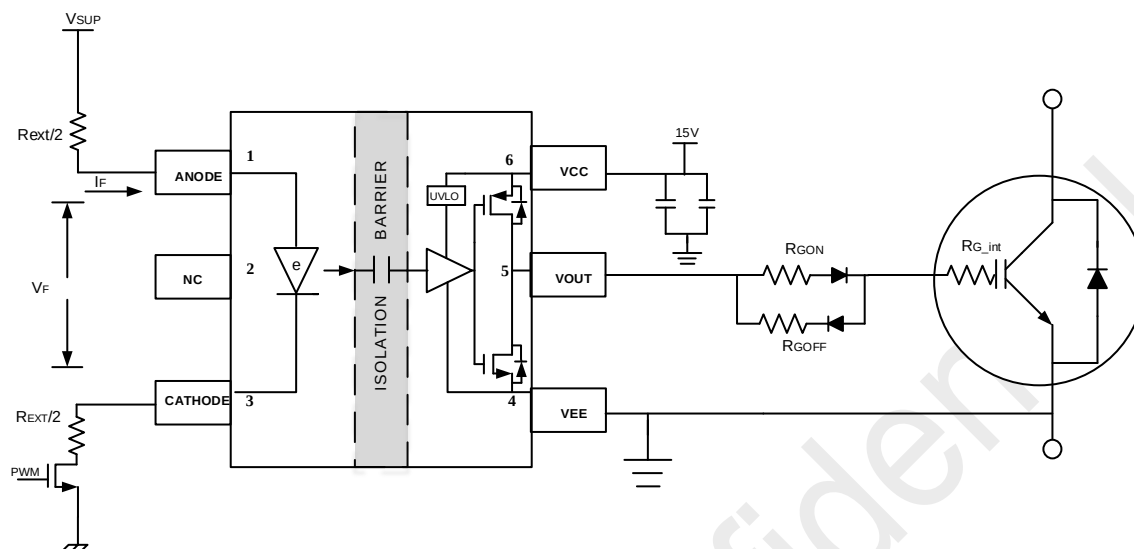
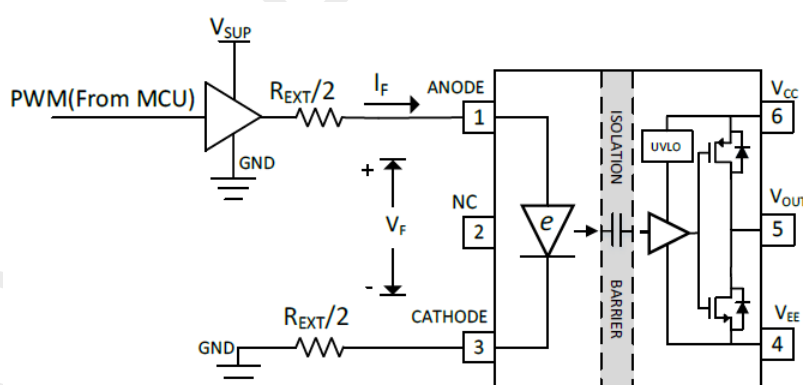
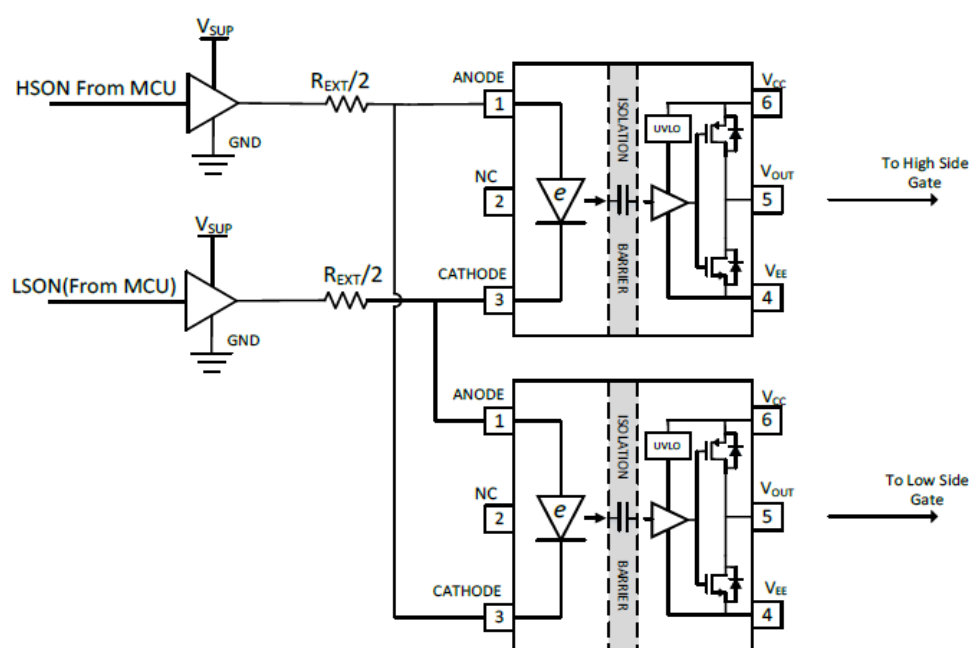

Figure 3-1. Typical Application Circuit with NMOS Driving Input Stage
Figure 3-2. Typical Application Circuit with One Buffer Driving Input Stage
Figure 3-3. Interlock Protection using CMT8603X
CMT8603X requires 7mA to 16mA bias current that flows into the e-diode for normal operation. The PWM from MCU is not suitable to provide such current directly and external circuit is needed. In Figure 3-1, one NMOS is used with split input resistors. Another input drive method is using one buffer, as shown in Figure 3-2.
For applications to drive power transistors in half bridge configuration, two CMT8603X can be used. Interlock protection is possible as shown in Figure 3-3. If the controller has some mistake, leading to negative dead time, the output PWM of CMT8603X is adjusted to avoid power transistor shoot through. The input side reverse breakdown voltage of CMT8603X is greater than 6.5V, which supports interlock protection of 3.3V or 5V PWM signal source.
The recommended forward current range for CMT8603X is 7mA to 16mA. The value of input resistor, buffer supply voltage and buffer internal resistance influence the forward current, as shown in Equation (1). In Figure 3-1, R_{Buffer} is the on-resistance of the external NMOS. In Figure 3-2, R_{Buffer} is the buffer output impedance in output “High” state. In Figure 3-3, R_{Buffer} is the summary of buffer output impedance in “High” and “Low” state.